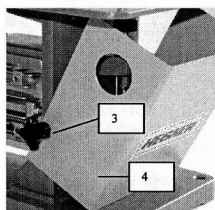

Fig. 3
Slacken the star knob (3) and tip protecting hood (4) forward. (Fig. 3)
⇒ Fig. 3